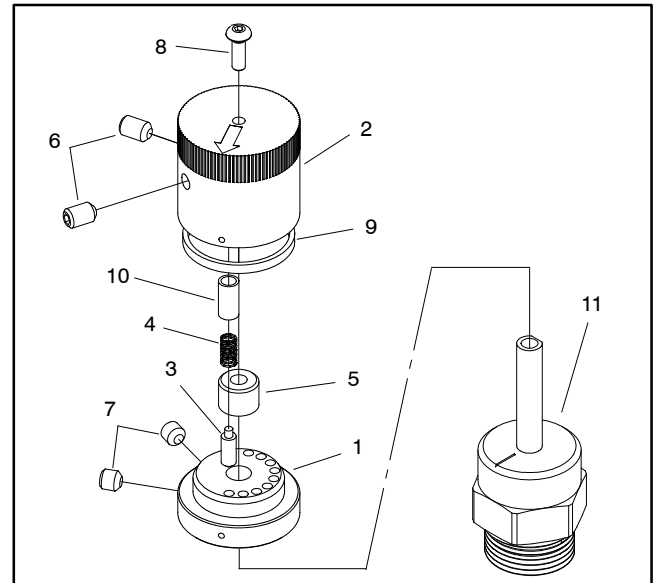

Figure 74
3. If flow control cartridge valve is being serviced, remove rotary handle from valve stem (Fig. 74):
A. Loosen two (2) set screws that secure handle cap.
D. Loosen two (2) set screws that secure handle base to flow control valve and remove base.
12. If flow control cartridge valve was removed, install rotary handle to valve stem (Fig. 74):
- A. Place handle base on flow control valve and position alignment mark on base with number 1 on manifold. Secure base with two (2) set screws. Apply a light coating of grease to chamfer on top of base to ease seal installation.
H. Make sure that alignment marks on cap and base are in line and that arrow on cap is pointing to number 1 on manifold. Tighten two (2) set screws to secure handle cap.